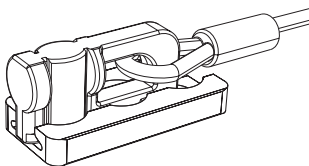

Fig.6
- È possibile sospendere le FUSION tramite appositi ganci per mezzo del sistema di aggancio rapido "fly track" (fig.6)
- It is possible to suspend the FUSION series cabinets through appropriate hook by means of the quick hook system "fly track" (fig.6)